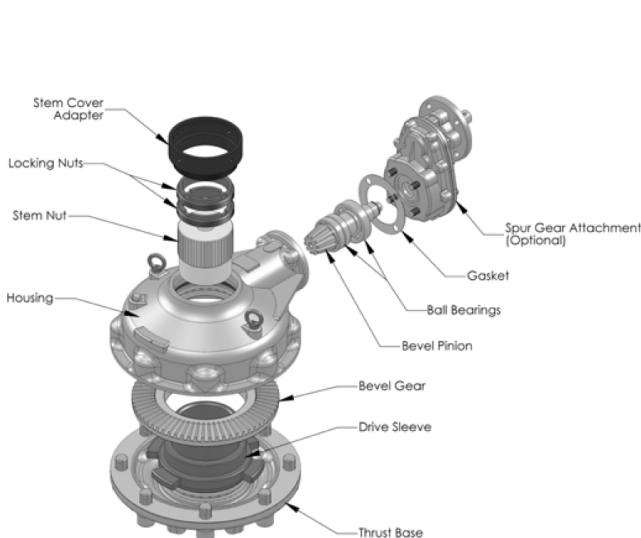

Figure 1: V Exploded View
WARNING: Do not manually operate the SB-V(H) gearbox (see figures 1 and 2) with devices other than the installed handwheel or wrench nut. Using additive force devices (cheater bars, wheel wrenches, pipe wrenches, or other devices of this nature) on the gearbox handwheel, wrench or wrench nut may cause serious personal injury and/or damage to the gearbox or valve.